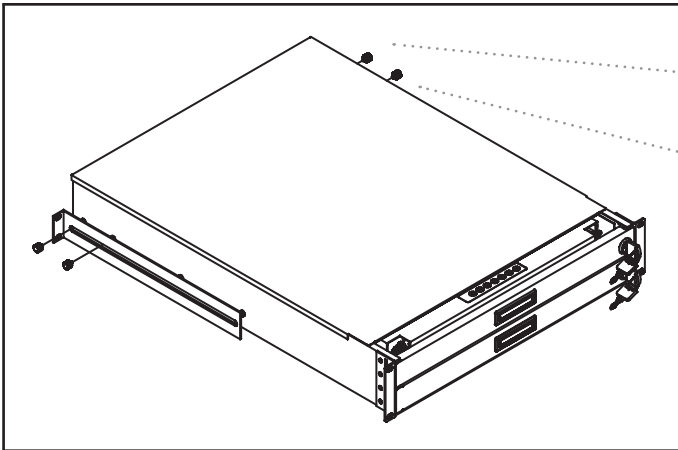

Figure 1. Installing the rear L-bracket to the LCD keyboard drawer.
- Install each rear L-bracket using two fasteners shown in Figure 1.